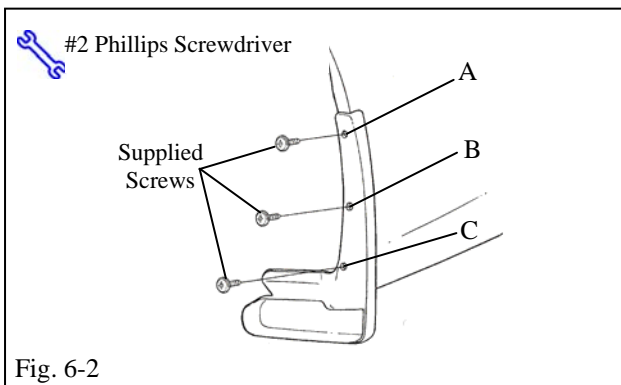

Fig. 6-2
-  (b) Install supplied 15mm screws in locations A, B and C while holding part up and into bumper panel and tighten. (Fig. 6-2)